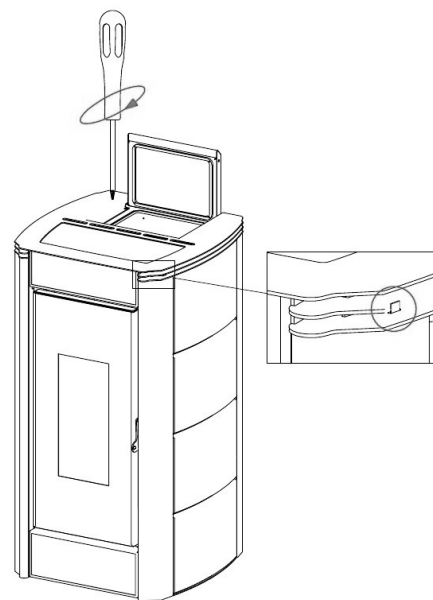

Fig. 37 - Position cover
- Reposition the cover by centring the special teeth (see **Fig. 37**).